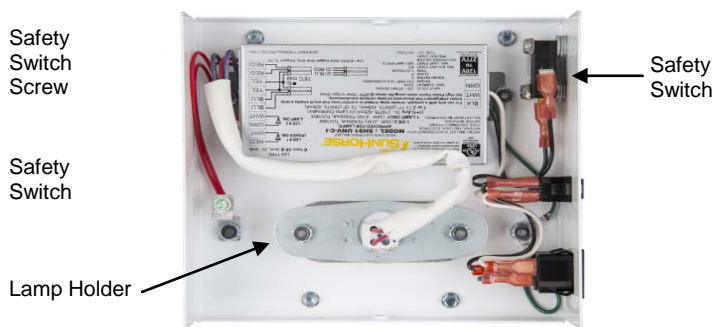

Figure 9 – Lamp Back Mounting Plate
- 6) Remove germicidal lamp holder using a 11/32 size nut driver (fig 9).